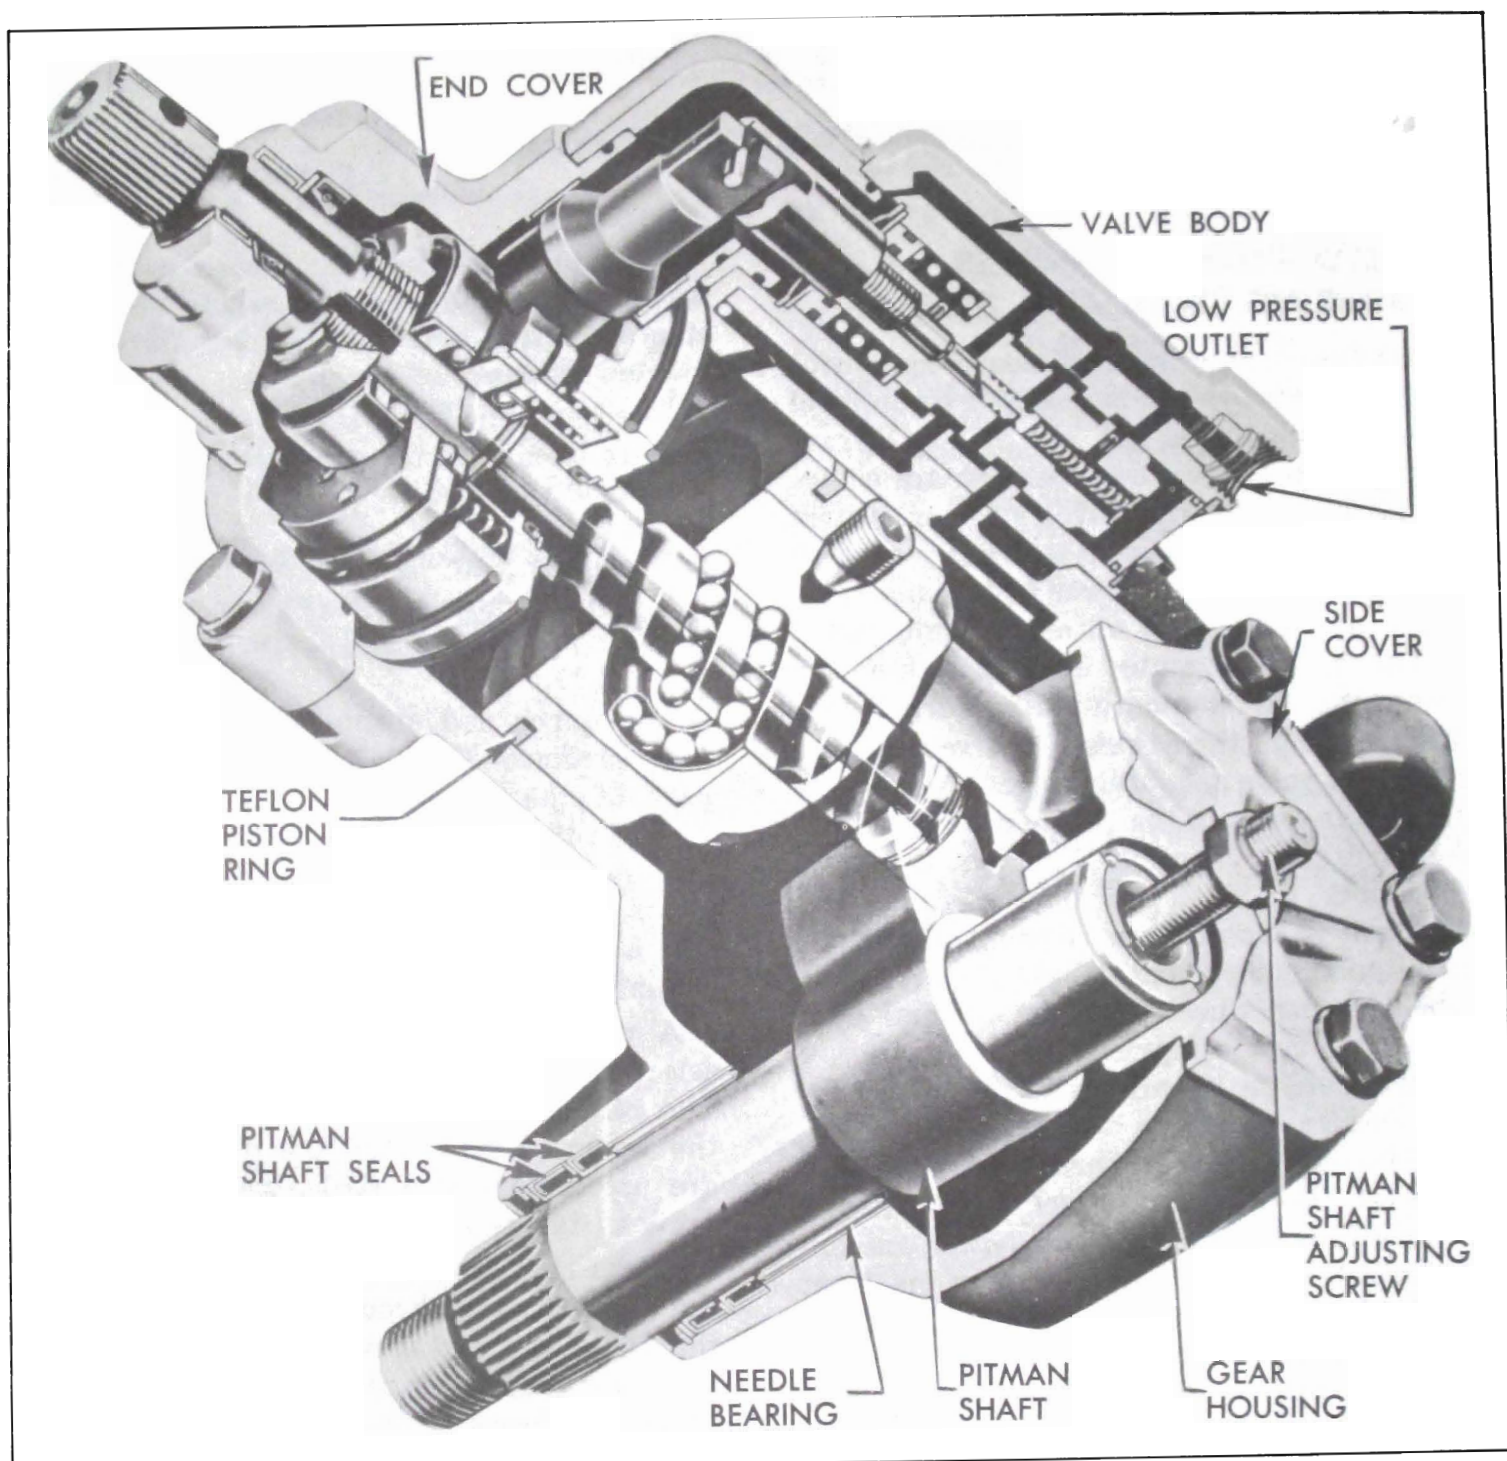

Figure 8-11—Power Steering Gear Assembly
The upper end of the pitman shaft has a gear section meshing with a rack which is a part of the power piston. This rack-piston slides in the gear housing which is cylindrical. The rack-piston assembly consists of power piston and rack with a Teflon piston ring and also a ball nut locked rigidly in place with a retaining screw. See figure 8-11.
and three-quarters ( $2\frac{3}{4}$ ) to six (6) pounds so that this effort is proportional to the force necessary to turn the front wheels, thereby providing the “feel” of steering previously mentioned. See Figure 8-11.